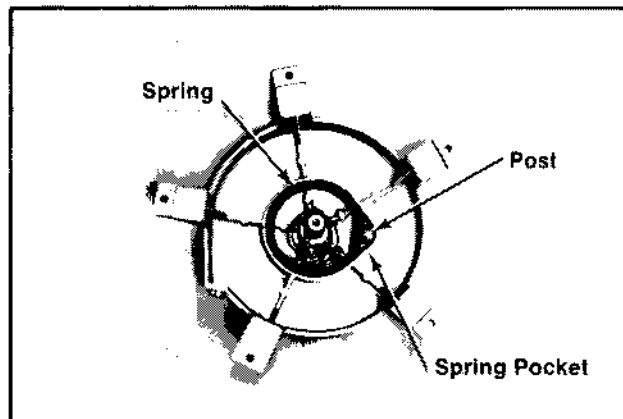

Figure 7-16. Position Of Spring In Housing.
1. Carefully note the position of the spring in the housing. Also refer to Figure 7-16. The new spring must be installed in the proper position—it is possible to install it backwards in the housing.
- Position the spring/c-ring to the housing so the spring hook is over the post in the housing. Make sure the spring is coiled in the correct direction. Refer to Figures 7-16 and 7-18.